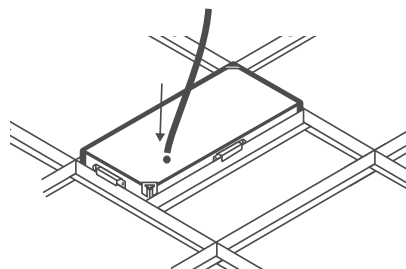

FIGURE 10:
2. Run speaker wire through back of speaker and into the terminal block area. Use appropriate conduit connector or cable bushing/grommet (not supplied) as needed for the 1/2" opening (see figure 10).